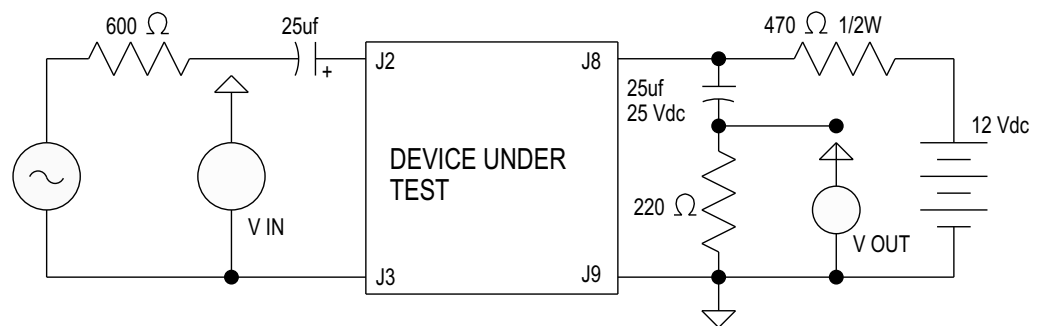

FIGURE 14. Airman 850 Headset, Boom Assembly Test Circuit
1. Construct a **test circuit**. For more information, see Figure 14.